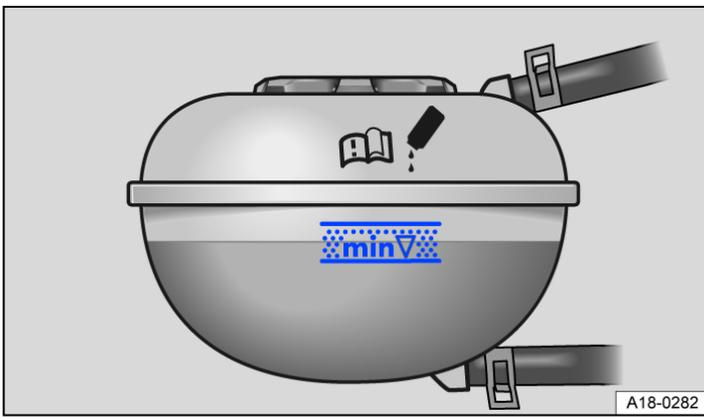

Fig. 2 In the engine compartment: markings on the coolant expansion tank (illustration).
1. When the engine is cold, check the coolant level at the side markings of the coolant expansion tank → Fig. 2. The coolant level must be between the marks.
After adding the coolant, the coolant level must be between the markings on the coolant expansion tank → Fig. 2.